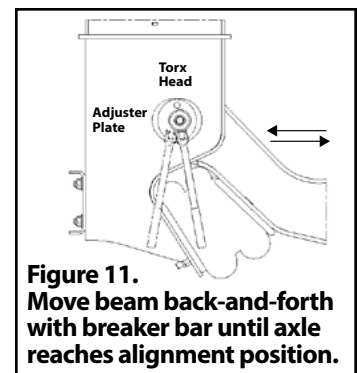

Figure 11. Move beam back-and-forth with breaker bar until axle reaches alignment position.
3. Return to starting location. Insert a 1/2”-shank breaker bar into square hole of the adjuster plate (Figure 11).